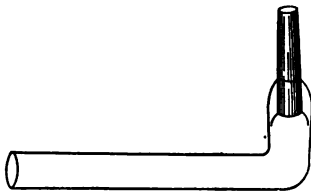

FIG. 27.
M. In nearly all burning materials sodium is present, and a very little is enough to make the yellow colour. But we can make a pure-coloured hydrogen flame. I have here a little piece of platinum-foil; I make it soft by heating, and then wrap it firmly round a knitting-needle; so I get a quite serviceable little tube of platinum. I put a few millimetres of this in a glass tube which is slightly wider than it, and heat the place. You see how the glass tube lies round the platinum? Now it is melted and closed up all round, and I have a burner-tube with a platinum tip which I can afterwards bend to a right angle. (Fig. 27.)